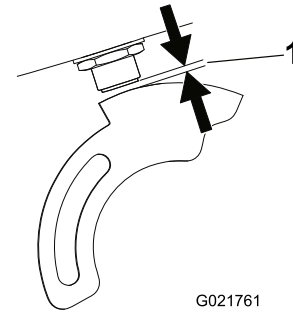

Figure 15
- Using the jam nuts, adjust the proximity switch up or down until the gap between the switch plunger and the sensor plate is 3.8 to 4.3 mm (0.150 to 0.170 inch) (Figure 15).